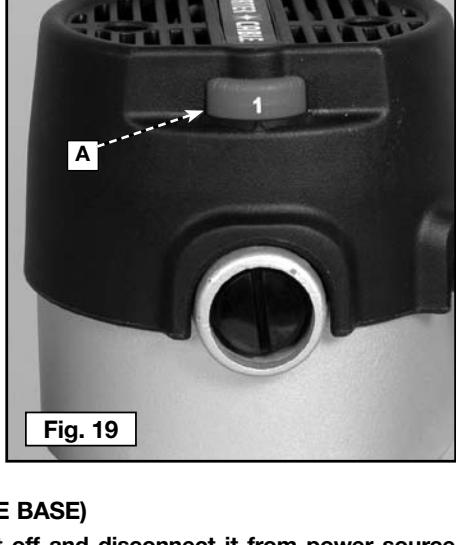

Fig. 19
This router is equipped with a variable speed control (A) Fig. 19 with an infinite number of speeds between 10,000 and 27,000 RPM.